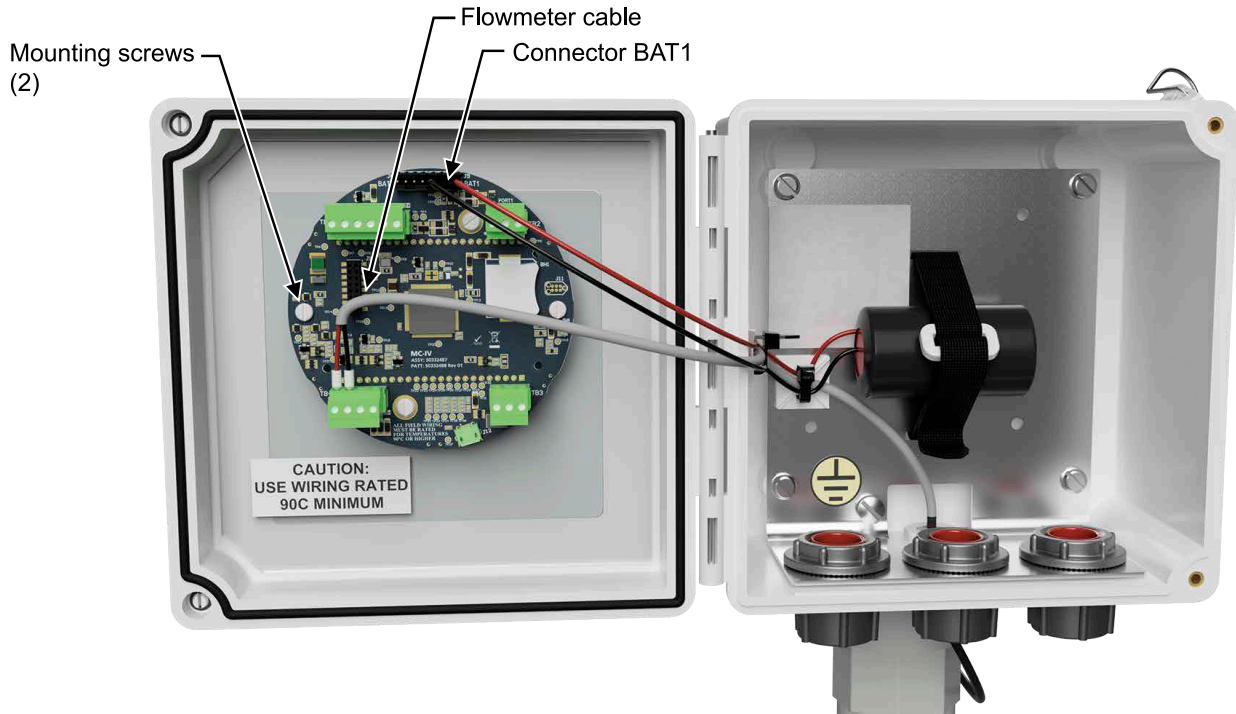

Figure 4.3—Circuit assembly replacement
- Using a small standard blade screwdriver, remove the two #4-40 × 5/16" screws located to the right and left side of the display (Figure 4.3).